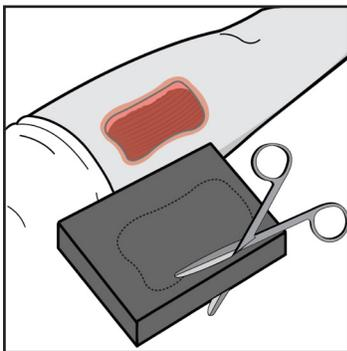

Figure 2
7. Cut the black foam to a size that is appropriate for the wound (**Figure 2**). Document the number of black foam pieces used to fill the wound in the patient's chart.